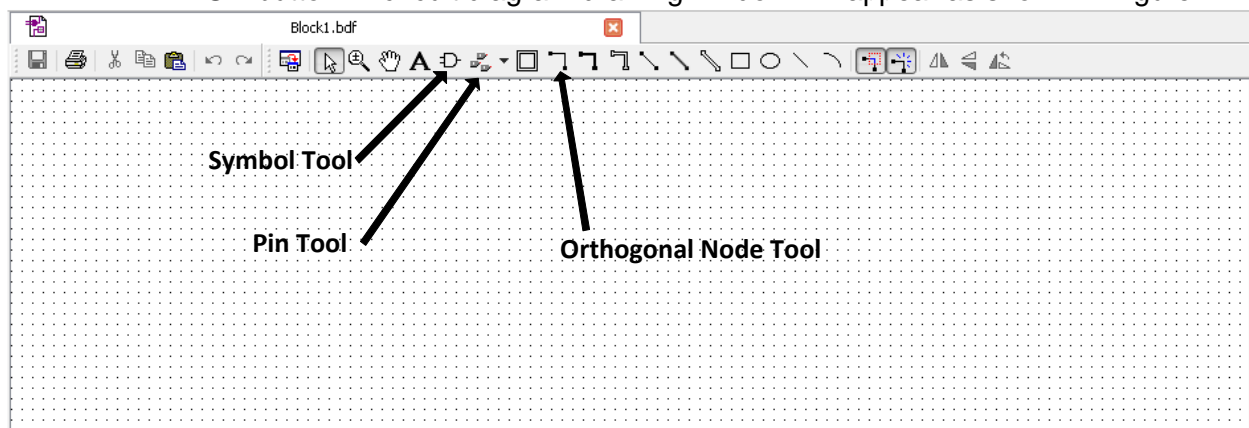

Figure 2. Schematic Design Window of Quartus II 13.0sp2
- b. From the list of design files, select **Block Diagram/Schematic File**, then click the **OK** button. A circuit diagram drawing window will appear as shown in Figure 2.